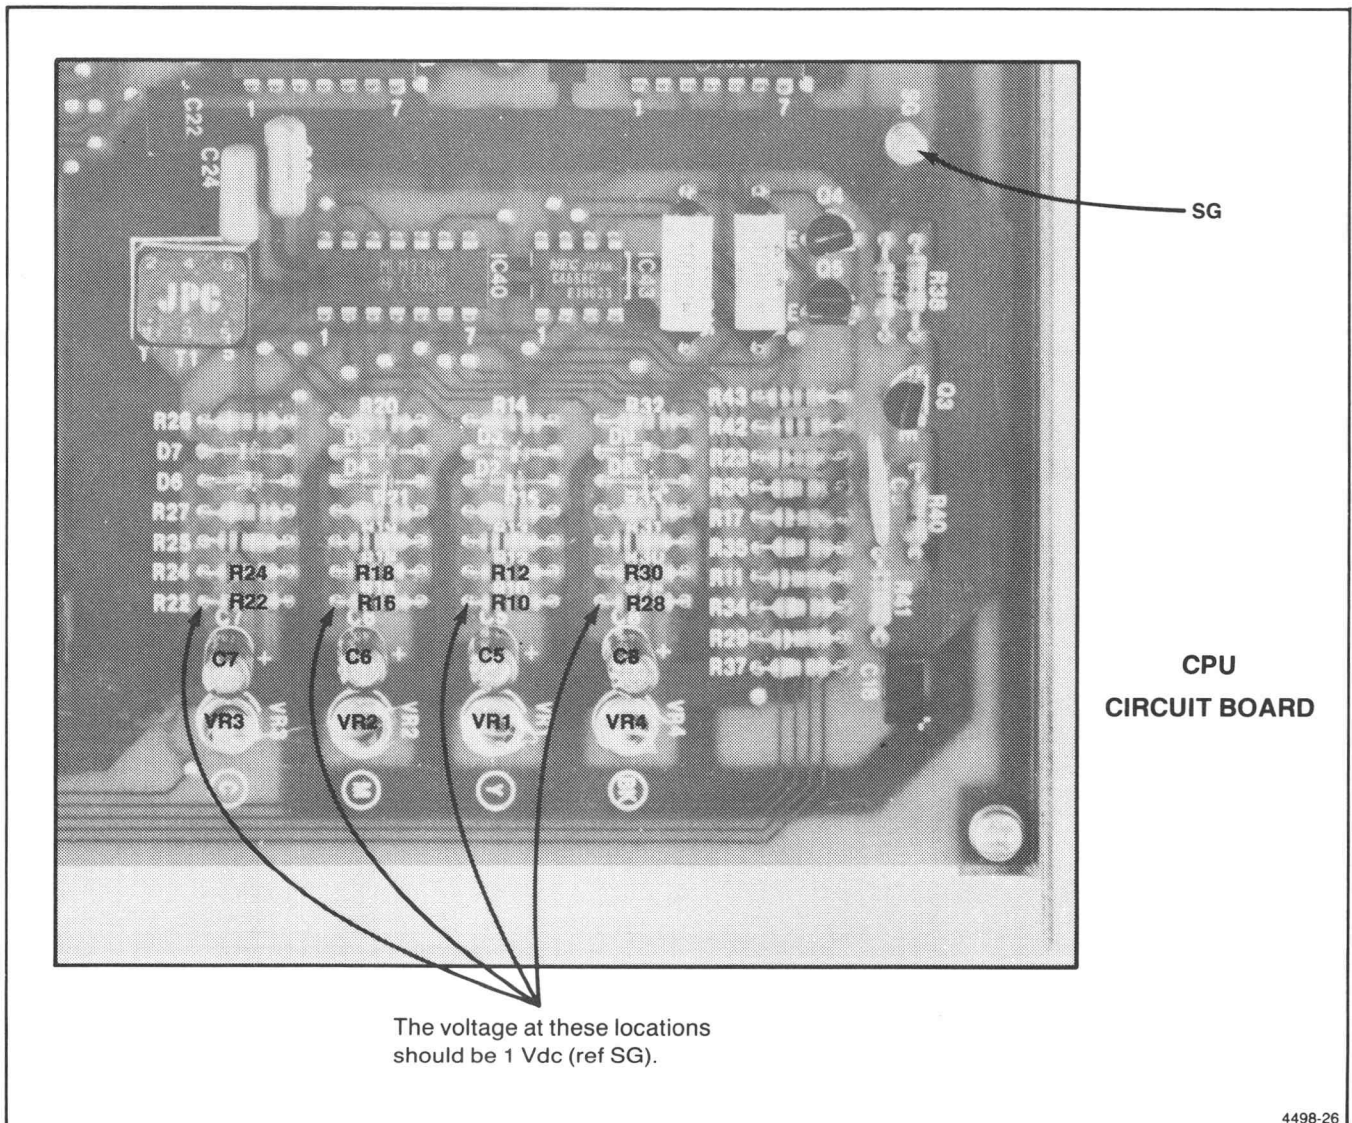

Figure 5-8. Low Ink Level Detection Adjustments and Test Locations.
4. Connect the ground lead of a DVM to SG (see Figure 5-8).
6. Connect the signal lead of the DVM to the left side of R10 (see Figure 5-8).
8. Move the signal lead of the DVM to the left side of R16 (see Figure 5-8).
10. Move the signal lead of the DVM to the left side of R22 (see Figure 5-8).
12. Move the signal lead of the DVM to the left side of R28 (see Figure 5-8).